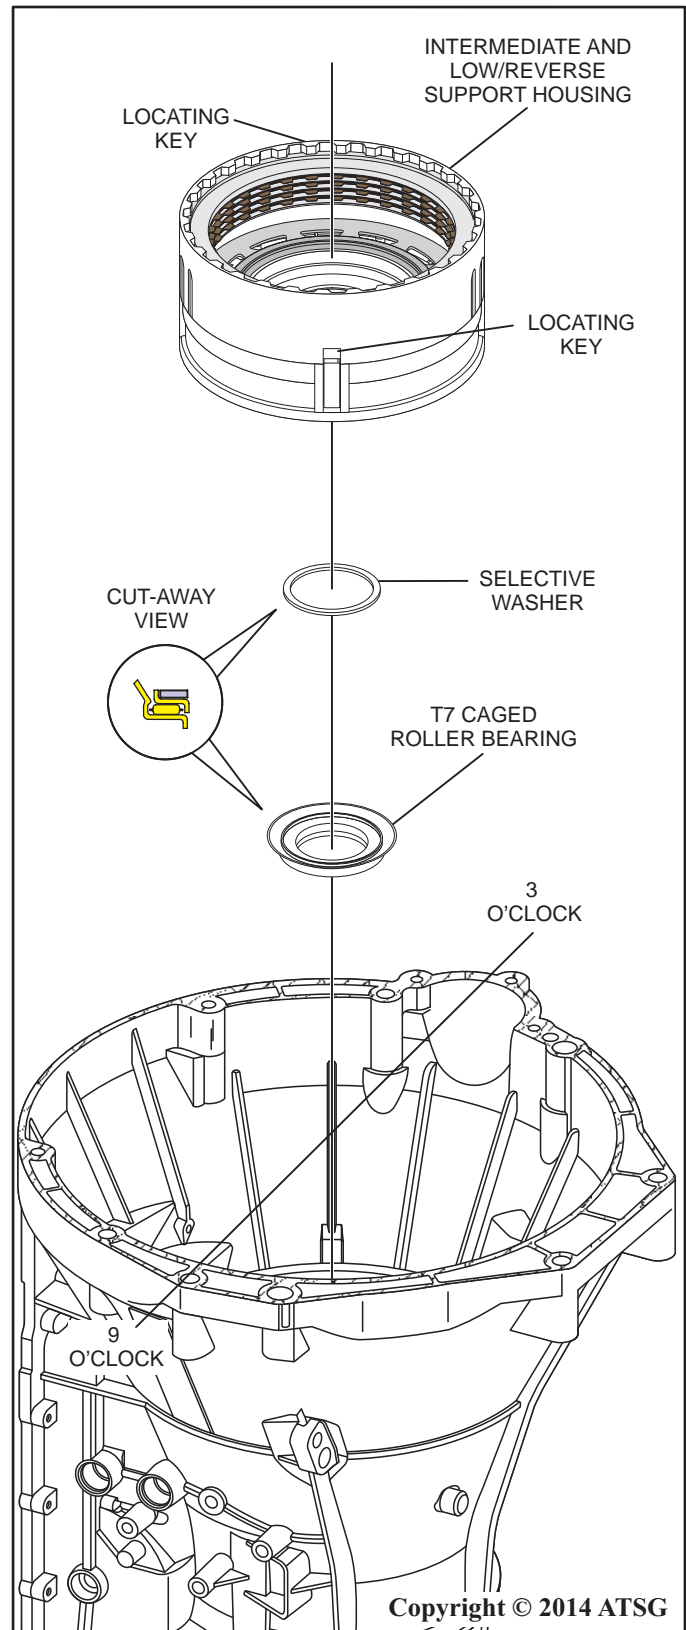

Figure 139
22. Install the selective washer and the T7 caged roller bearing onto the intermediate and low/reverse support housing and secure them in place with a small amount of Trans-Jel® as shown in Figure 139.
23. Install the intermediate and low/reverse support housing into the transmission with the locating keys at the 3 o'clock and 9 o'clock position as shown in Figure 139.
39. If output shaft end play is not within specification, install a thicker or thinner selective washer between the T7 caged roller bearing and the intermediate and low/reverse support housing. Refer to Figure 139.